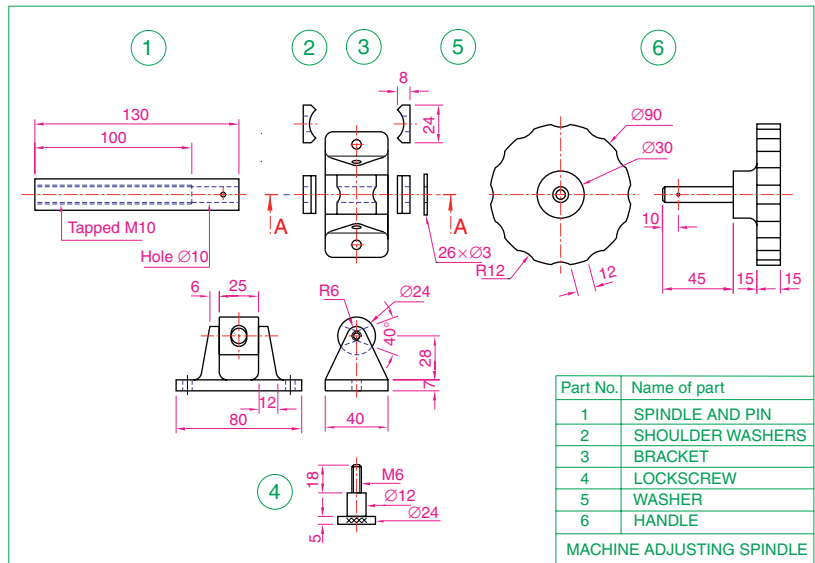

Fig. 11.18 Exercise 2
- Construct a similar sheet set as in the answer to exercise 1 from the exploded orthographic drawing of a **Machine adjusting spindle** given in Fig. 11.18.